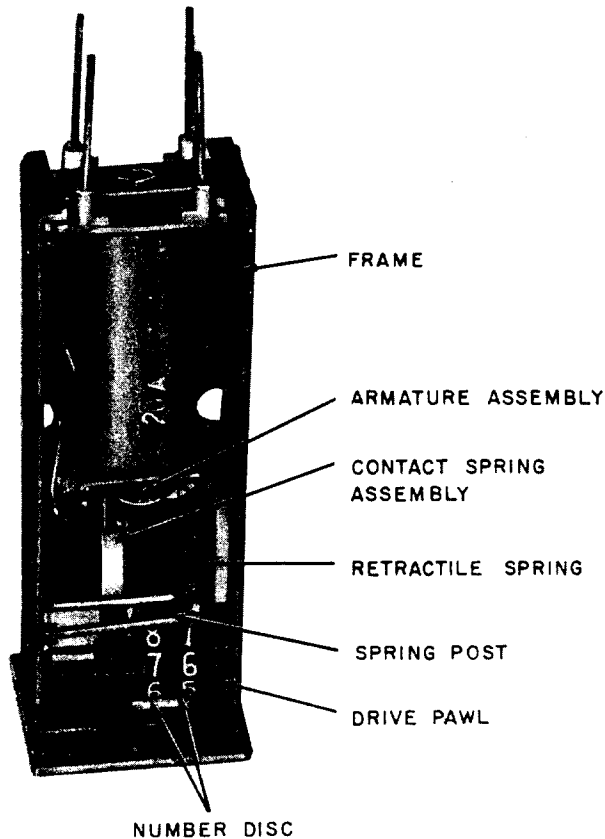

Fig. 2—20A Register With Cover Removed
1.06 The 20A register (Fig. 2) is similar to the 19A register, except it is a 2-digit counter with a normally open output contact which closes momentarily during application of each one-hundredth pulse to the counter.